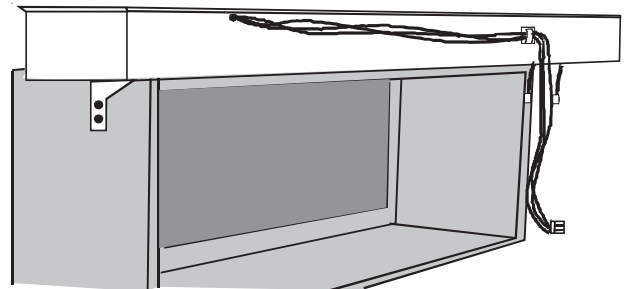

Figure 5
5. Position the hydronic top with support brackets to the wall sleeve and fasten the support brackets to the drilled holes in the wall sleeve with four 1/2-inch #10 supplied screws. (Figure 5)